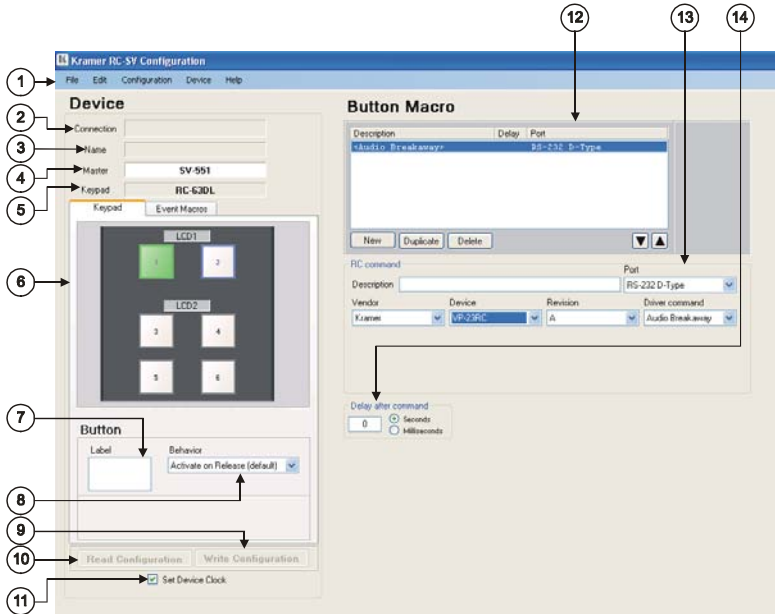

Figure 17: The Kramer RC Configuration Main Window
After importing the drivers and defining the ports, use the Kramer RC Configuration main window to assign a sequence of commands (the macro) for each RC button. Figure 17 illustrates the *Kramer RC-SV Configuration* main window¹, and Table 5 defines it:
- The keypad tab, illustrated in Figure 17 and defined in Table 5, lets you assign macros to the buttons (see section 5)